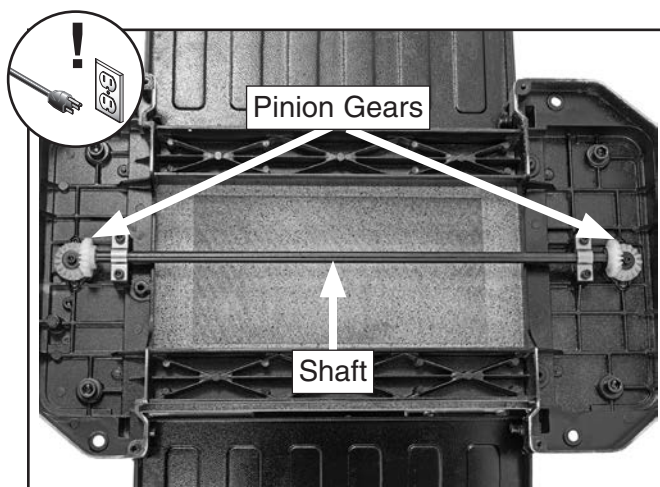

Figure 38. Headstock height pinion gears exposed for lubricating.
2. Gently tilt machine onto its back (see **Figure 38**) to expose gears.